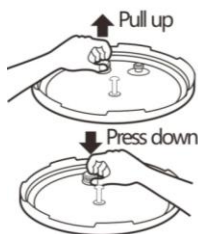

Figure 19
2. Use a non-abrasive sponge or damp wash cloth to clean the outer body (13). NEVER immerse the outer body (13) in any liquids or pour liquid into it.
3. Remove the condensation cup (12) and rinse it thoroughly and let dry. Clean the upper ring (9) with a damp sponge or wash cloth.
4. Remove the pressure limiting valve (3) by gripping and firmly pulling upwards. Rinse with warm water and dry.
5. Clean the lid (2) with warm soapy water, including the rubber seal ring (18), filter (17), vent, float valve (5) and let dry thoroughly.
6. On the underside of the lid below the pressure limiting valve (3), is a small metal filter (17) which can be easily removed to clean (Figure 19).
8. Wash the inner pot, (6), wire rack (20) and glass lid (21) with a non-abrasive sponge and allow to air dry or use a towel. It is not recommended to use any type of scouring pad that can scratch the non-stick surface of the Inner Pot (6).
To clean the filter (17), remove it by pulling vertically. To re-attach, simply line up the filter (17) and press down to secure the filter (Figure 19).